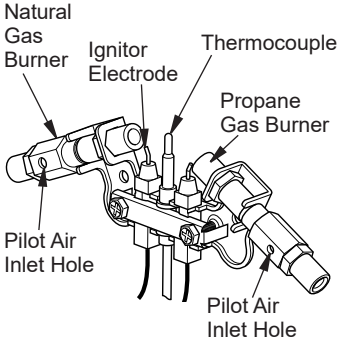

**Figure 21 - Control Knob in the OFF Position**
5. Turn control knob counterclockwise ↺ to the PILOT position. Press in control knob for five (5) seconds (see Figure 21).
*Note: The first time that the heater is operated after connecting the gas supply, the control knob should be pressed for about thirty (30) seconds. This will allow air to bleed from the gas system. If pilot does not stay lit, refer to Troubleshooting, pages 23 through 26. Also contact a qualified service technician or gas supplier for repairs. Until repairs are made, light pilot with match.*